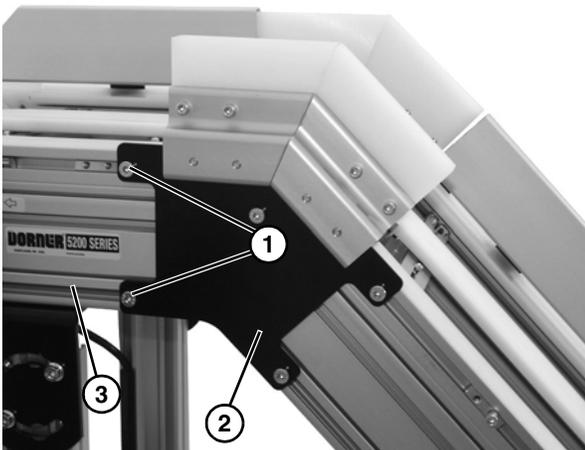

Figure 6
1. Attach upper knuckle to frame by loosening two socket head capscrews (Figure 6, item 1) on each side of upper knuckle assembly (Figure 6, item 2), and sliding T-Nuts into straight frame section (Figure 6, item 3).